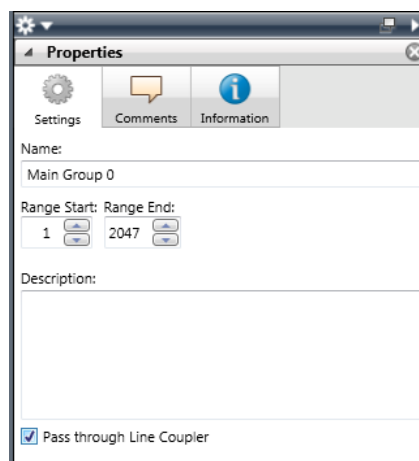

Figure 167: Setting the Pass through Line Coupler option.
1. Enable the switch **Pass through line couplers** option in the ETS4 group address or group range options, as shown in Figure 167. If this switch is set, the couplers will forward the group addresses towards the main line.